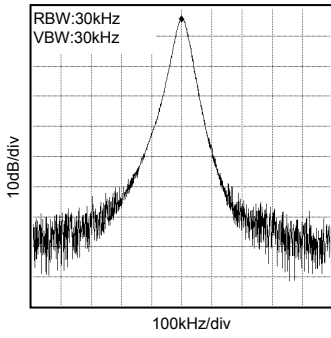

Fig.37 Spectrum Waveform
*1 Design guaranteed figures 37 MHz to 54 MHz when R_{bias} = 2.0 kΩ